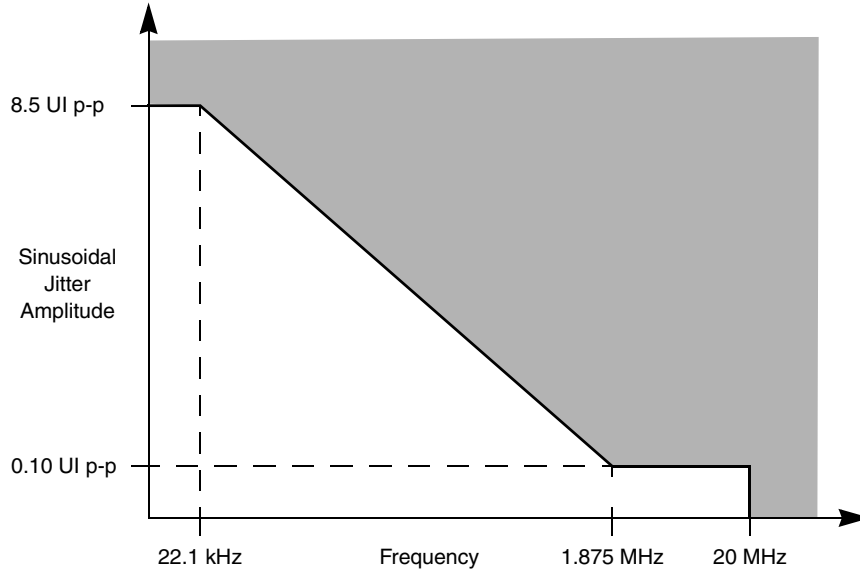

Figure 18. Single Frequency Sinusoidal Jitter Limits
2. Total jitter is composed of three components, deterministic jitter, random jitter, and single frequency sinusoidal jitter. The sinusoidal jitter may have any amplitude and frequency in the unshaded region of Figure 18 . The sinusoidal jitter component is included to ensure margin for low frequency jitter, wander, noise, crosstalk, and other variable system effects.
Notes: 1. See Figure 18 for single frequency sinusoidal jitter limits 2. Each UI is 800 ps \pm 100 ppm.
Notes: 1. Measured at receiver. 2. Refer to RapidIO™ 1x/4x LP Serial Physical Layer Specification for interpretation of jitter specifications. Also see Figure 18 . 3. Each UI is 800 ps \pm 100 ppm.